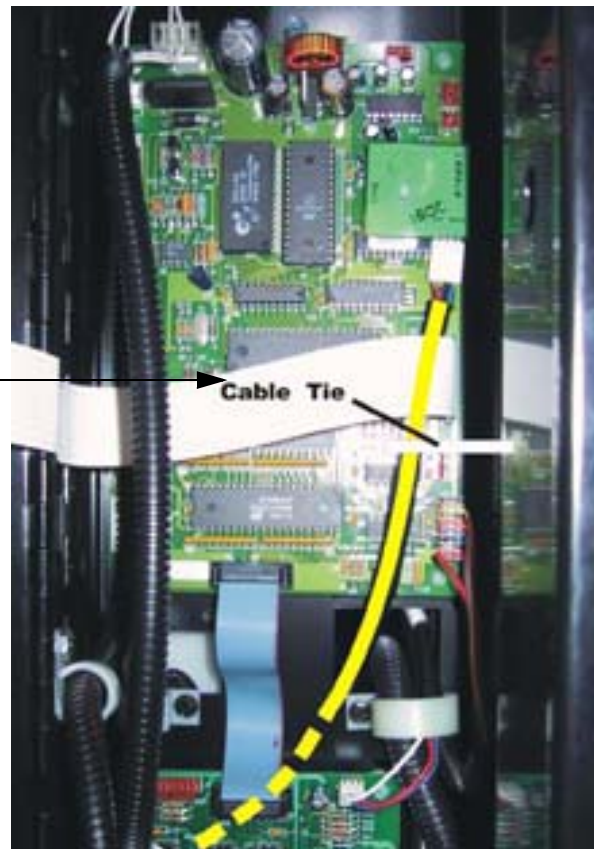

Figure 5
4. Route the cable harness (see figure 5):